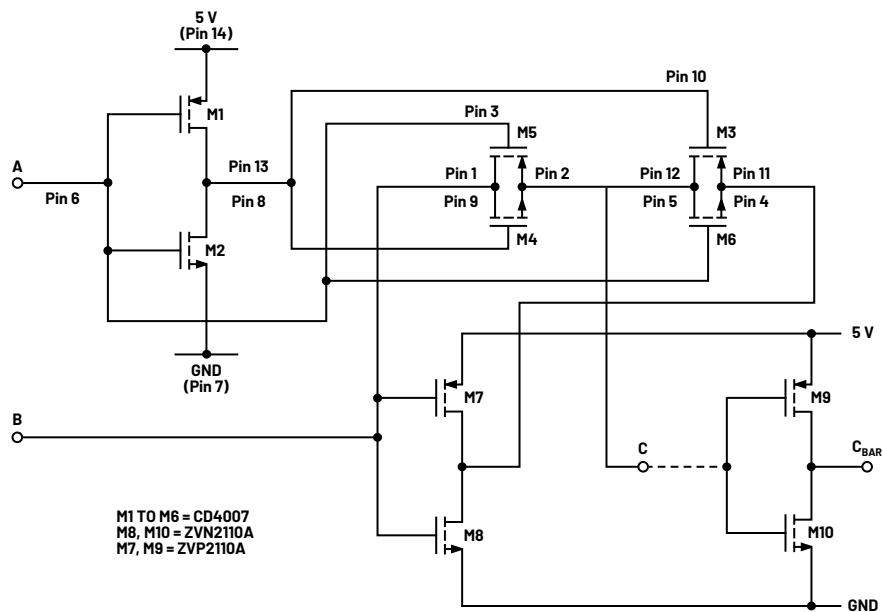

Figure 3. XOR and XNOR gate.
We will now combine the double-pole, single-throw (SPDT) transmission gate switch and two CMOS inverters to build an XOR gate (and XNOR) as shown in Figure 3. The two transmission gates work in tandem to realize a selector operation. Depending on the state of the A input, either Input B or the inverted version of Input B appears at the C (XOR) output. Two other inverters, M9 and M10, invert C to produce the C_{BAR} (XNOR) output.
Build the XOR/XNOR circuit shown in Figure 3 on your solderless breadboard. Use the CD4007 CMOS array for devices M1 to M6 and one ZVN2110A NMOS and ZVP2110A PMOS for each of the two inverter stages: the M7 and M8 stage and the M9 and M10 stage. Use the fixed 5 V power supply from the ADALM2000 to power your circuit.
- For the circuit in Figure 3, fill in the table below by setting AWG1 and AWG2 to logic high (5 V) and low (0 V).